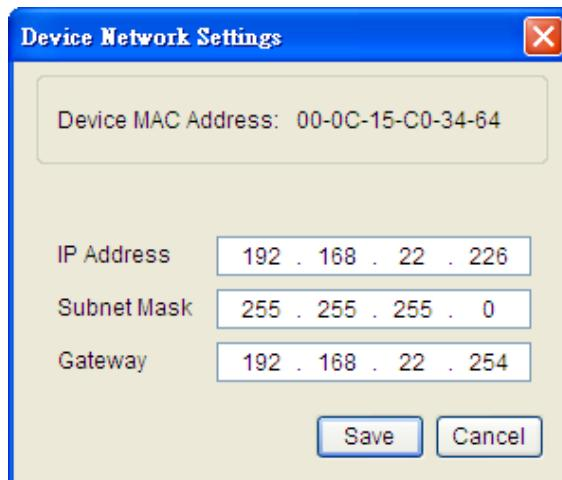

Figure 2. The setting window.
5. You can modify the IP Address, Subnet Mask, and Gateway address for the Device MAC Address listed in the Device Network Settings window, as shown in Figure 2.